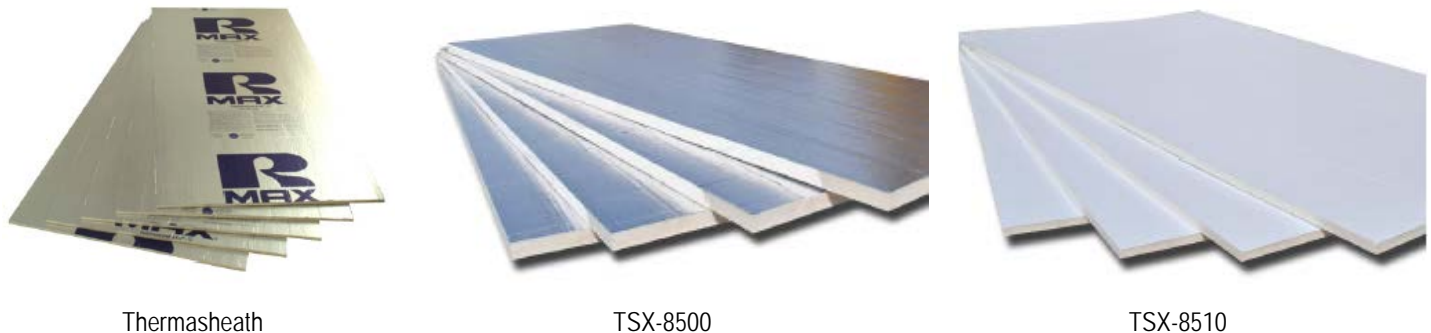

FIGURE 1. THERMASHEATH, TSX-8500, AND TSX-8510
- 4.1 Thermasheath, Thermasheath-XP, TSX-8500, TSX-8510, ECOMAXci FR, and ECOMAXci FR WHITE, pictured in Figure 1, are non-structural foam plastic insulating sheathing (FPIS) panels consisting of a closed-cell rigid polyisocyanurate (polyiso) foam core bonded to various facers (ASTM C1289 Type I, Class 1 and Class 2).